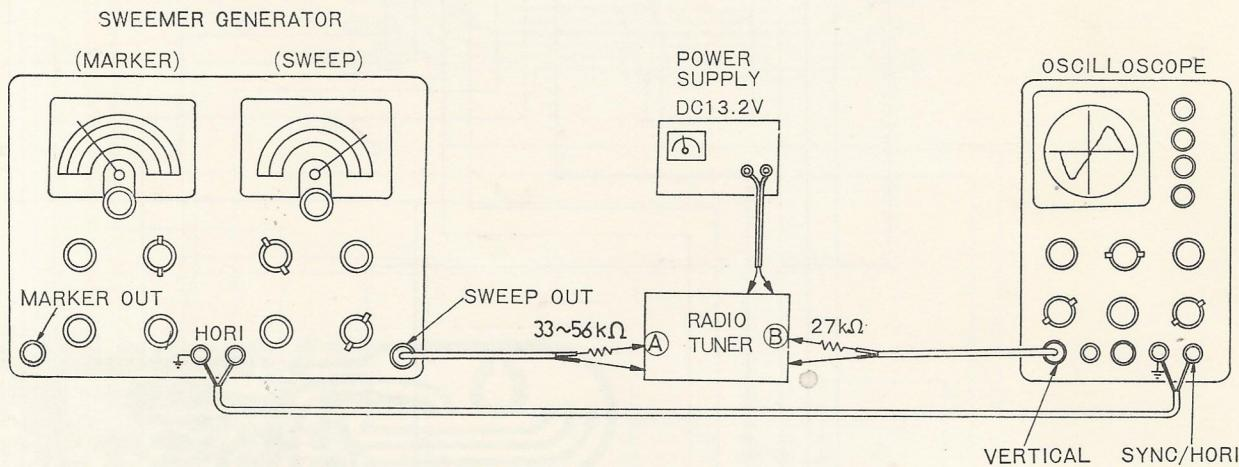
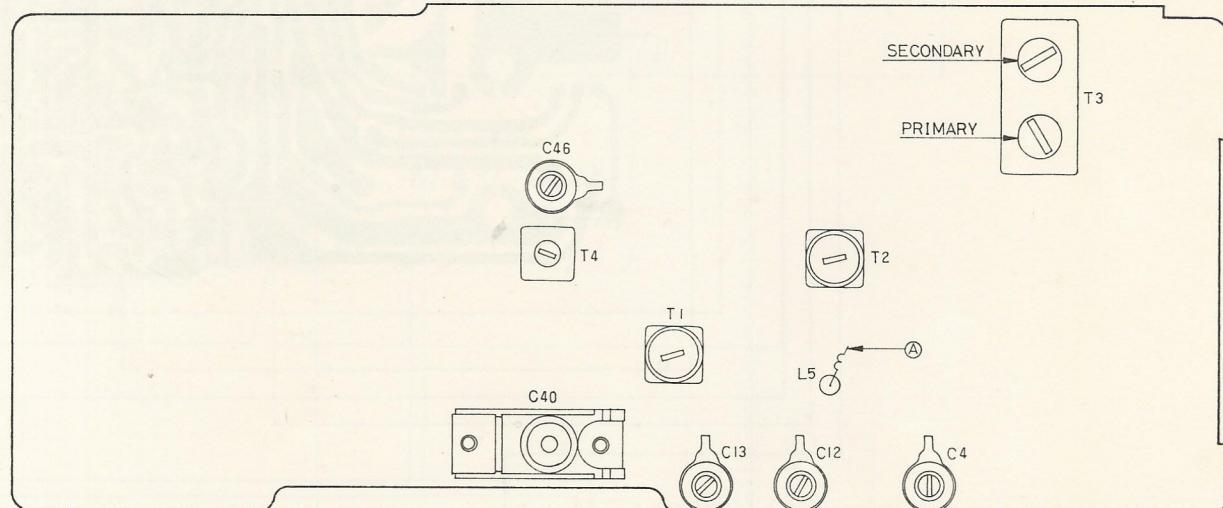

Fig. 8
Fig. 9
- ◎ Tracking alignment (Refer to Fig. 9 for "ADJUST" points.)
- ◎ IF alignment (Refer to Fig. 9 for "ADJUST" points and Fig. 8 and 9 for connection of measuring instruments.)
As connected in Fig. 8, align as follows, observing S-curve on the oscilloscope.
- ◎ Tracking alignment (Refer to Fig. 9 for "ADJUST" points. For this alignment, SSG is needed.)